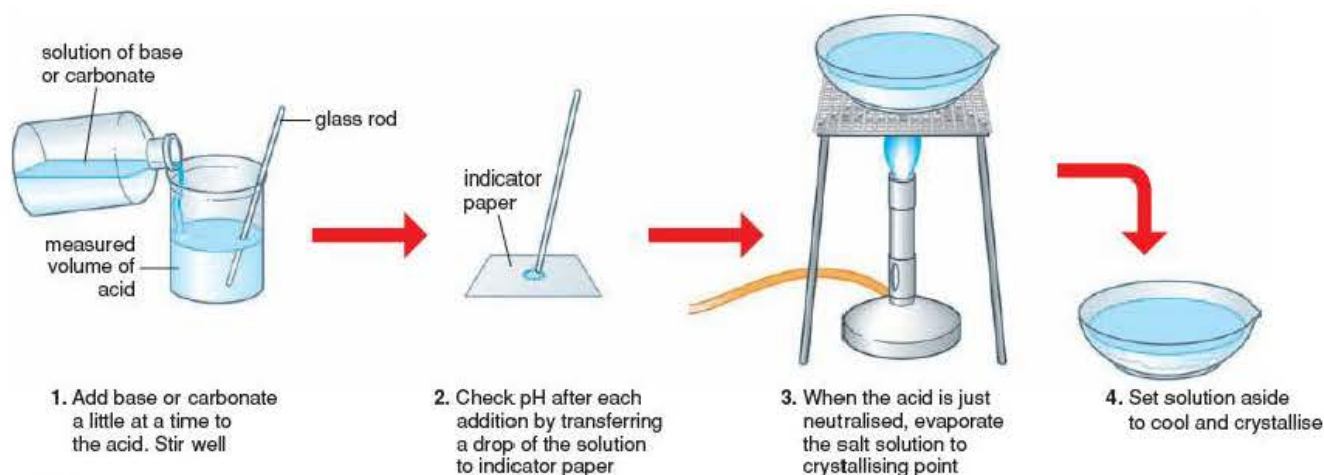

Figure 5.3
In method 1, we can tell when the acid has been used up because unreacted metal, base or carbonate remains in the liquid as undissolved, *insoluble* solid. But, if the base or carbonate is *soluble* (like sodium hydroxide or sodium carbonate), we cannot tell when the acid has been used up because excess solid will dissolve even after the acid has been neutralised. To get round this, we must use an indicator to tell us when we have added just enough base or carbonate to neutralise the acid. Figure 5.3 shows the main stages involved.
- Look at method 2 for preparing salts (Figure 5.3).